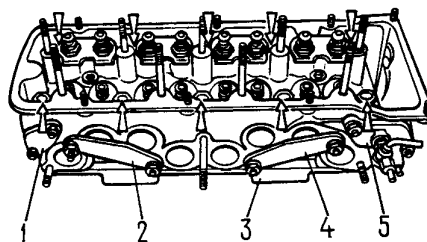

Fig. 2-52. Checking Cylinder Head for Tightness on Tester A.60334:
- install the parts of tester A.60334 (Fig. 2-52) on the cylinder head;